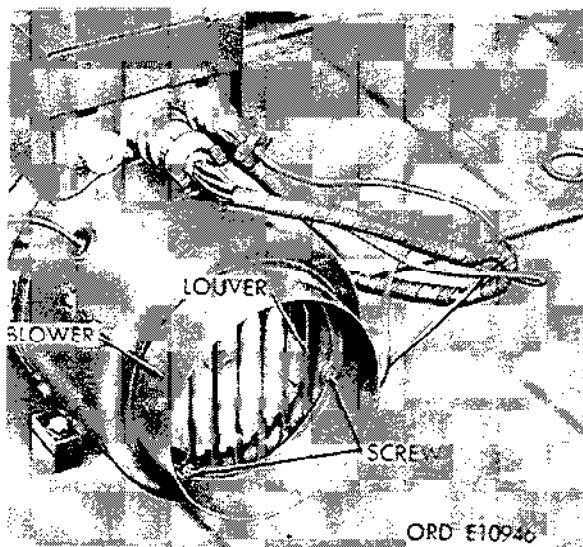

Figure 3-10. Adapter mounting screws.
(13) Remove blower inlet adapter by removing three screws (fig. 3-10). Install inlet louver to blower assembly using three screws.
(1) Refer to operations (1) through (9) in a above.
(2) Remove three screws securing diverter-actuator assembly to heater body. Remove assembly.
(3) Remove three screws securing inlet adapter to heater body intake and remove adapter (fig. 3-10).